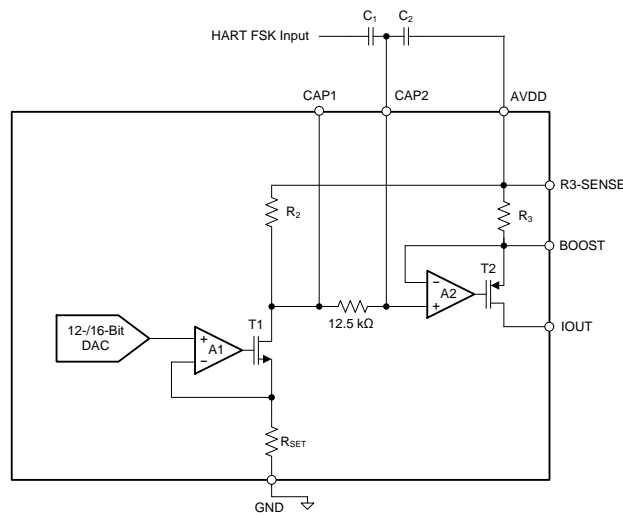

Figure 60. Implementing HART on IOOUT Using the CAP2 Terminal
The first method of implementing HART is to couple the signal through the CAP2 pin, as shown in Figure 60. Note that this pin is only available in the 40-pin VQFN package
In Figure 60, R_3 is nominally 40 Ω , and R_2 is dependent on the current output range (set by the RANGE bits), described as follows:
When the input HART frequency is greater than the 3-dB frequency, the ac signal is seen at the plus input of amplifier A2 and is therefore seen across the 40- Ω resistor. To generate a 1-mA signal on the output therefore requires a 40-mV peak-to-peak signal on CAP2. Because most HART modems do not output a 40-mV signal, a capacitive divider is used in Figure 60 to attenuate the FSK signal from the modem. In Figure 60, the high-pass cutoff frequency is $1 / (2 \times \pi \times [R_2 + 12.5 \text{ k}\Omega] \times [C_1 + C_2])$. There is one disadvantage to this approach: if the AVDD supply is not clean, any ripple on it could couple into the part.
1. As illustrated in Figure 60, CAP2 is directly connected to the input of the final IOUT amplifier. Any noise or unwanted ac signal routed near the CAP1 and CAP2 terminals could capacitively couple onto internal nodes and affect IOUT. Therefore, it is important to avoid routing any digital or HART signal traces over the CAP1 and CAP2 traces.